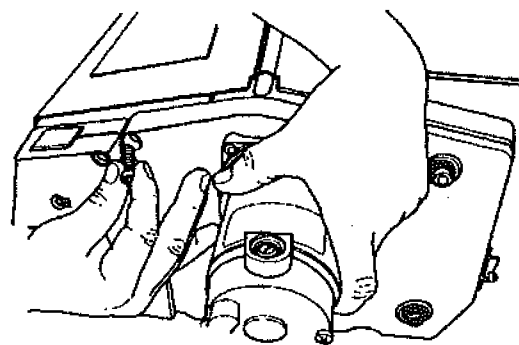

Fig. 22
29. Attach the feed motor to the planer with the socket head screws and lock washers, as seen in Fig. 22.